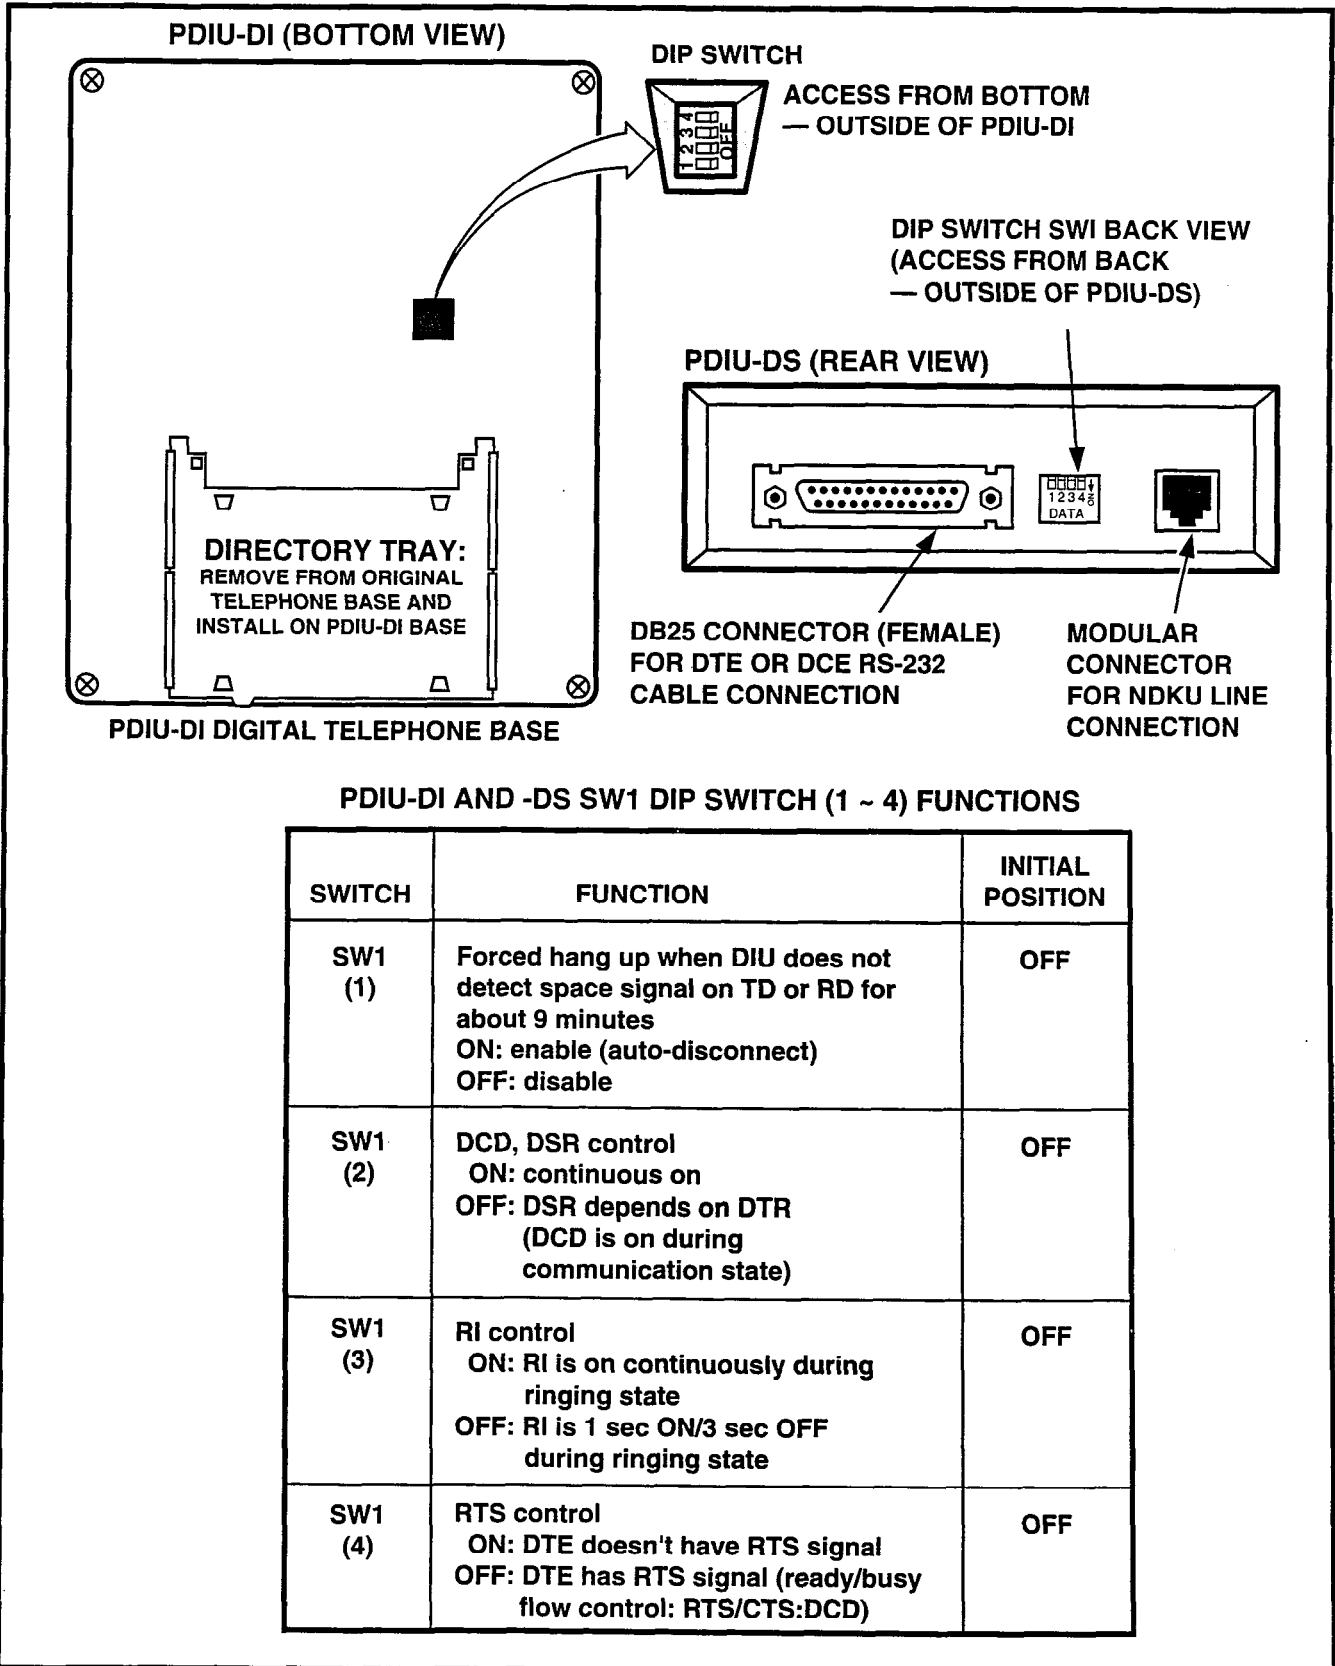

FIGURE 4-55—PDIU-DI/PDIU-DS SW1 DIP SWITCH INFORMATION
- **Request to Send (RTS, Pin 4):** Some DTE devices send an RTS signal (EIA circuit CA) to the DCE device when they are ready to transmit data on the TD lead. If the DTE device generates the RTS signal, the DIU DIP switch **SW1-4** should be set to **ON** to inform the PDIU. Sometimes, the DTE/DCE device may use RTS/CTS for Ready/Busy-type flow control. In these cases, DIP switch **SW1-4** should be set to **OFF** (see Figure 4-55 for the DIP switch information).
- **Clear to Send (CTS, Pin 5):** The DCE device sends the CTS signal (EIA circuit CB) which indicates that it is prepared to transmit data to the DTE device. The DCE device sends this signal, only when it receives the RTS signal from the DTE device. Sometimes, the DTE/DCE device may use RTS/CTS for Ready/Busy-type flow control; in these cases, dip switch **SW1-4** should be set to **OFF** (see Figure 4-55 for the DIP switch information).
- **Data Set Ready (DSR, Pin 6):** When connected to the communication channel and prepared to exchange control characters to initiate data transmission, the DCE device sends the DSR signal (EIA circuit CC) to the DTE device. If the PDIU DIP switch **SW1-1** is set to **OFF**, DSR and DCD (see DCD description below) will be **ON** continuously; if the switch is set to **ON**, the PDIU generates DSR only after receiving the DTR signal. Sometimes, DTE/DCE devices use DTR/DSR for Ready/Busy flow control; in these cases, DIP switch **SW1-2** should be set to **OFF** (see Figure 4-55 for the DIP switch information).
communication state only. **SW1-2** is set to **OFF** when the DTE/DCE uses the DTR/DSR signals for Ready/Busy flow control (see Figure 4-55 for the DIP switch information).
- **Data Terminal Ready (DTR, Pin 20):** The DTE device sends the DTR signal (EIA circuit CD) to the DCE device, prompting the DCE device to open the communication line. The line is closed and the call disconnected when the DTE device quits sending the DTR signal. DTR may be sent any time to indicate that the DTE is ready to transmit or receive data. Sometimes, DTE/DCE devices use DTR/DSR for Ready/Busy flow control; in these cases, DIP switch **SW1-2** should be set to **OFF** (see Figure 4-55 for the DIP switch information).
6.121 Each of the PDIU-DI and the PDIU-DS data units has a four-control DIP switch which can be configured for signaling options. The switch is located on the bottom of the PDIU-DI, and on the back panel of the PDIU-DS (see Figure 4-55).
- **SW1-3:** The PDIU-DI (or PDIU-DS configured as a DCE) sends the Ring Indicate signal (RI) to the computer to tell the computer (DTE) that the
- 4) Set the PDIU-DI/PDIU-DS DIP switch (**SW1-1 ~ 4**) for the desired application. Figure 4-55 shows the DIP switch locations and Paragraph 6.120 describes the switch functions.